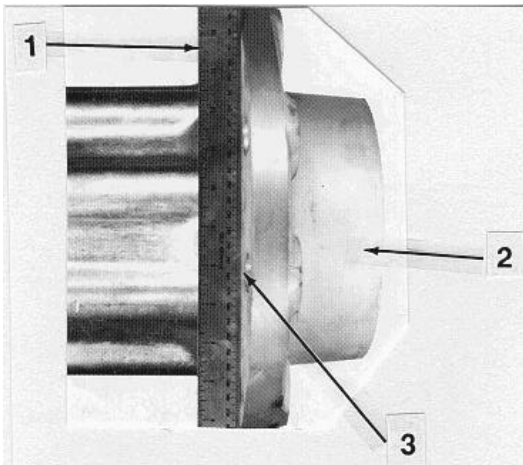

Figure 39 Bent Hub Face
5. Bent Hub Face (Figure 39). This condition can be caused by wheels running loose for an extended period of time. Continual retightening of wheel nuts is an indication of bent hub; hub should be checked. If there is more than a 1/32 inch gap as shown in Figure 39 , replace hub.